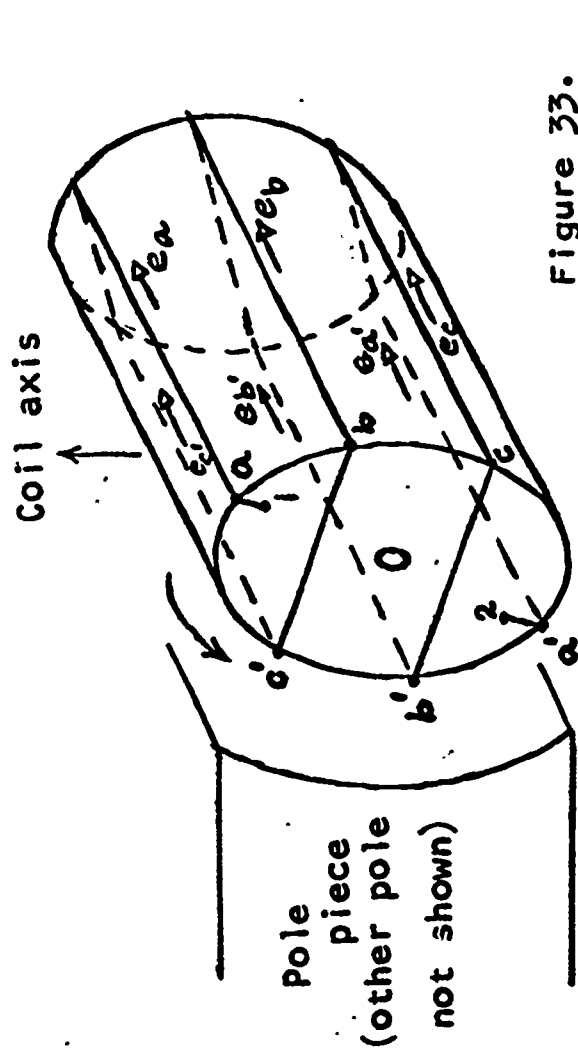

Figure 33.
Figure 33 is a repetition of Fig. 32b, but drawn with a small enough number of turns (fewer than in practice) to permit making uncluttered drawings. The practical difficulty with this method of winding is that the resulting coil has a definite axis, as indicated by the arrow, and still permits the use of only two commutator segments. An arrangement is desired that will be symmetrical with respect to the axis of the cylindrical rotor.
If you begin at terminal (1) in Fig. 33, and add the emfs indicated by the arrows, in the sequence they are encountered, the result is